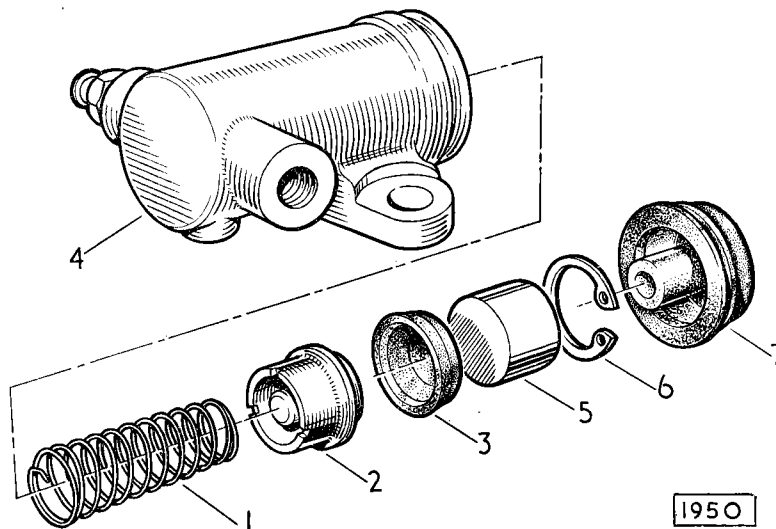

Fig. 8. Exploded view of the clutch slave cylinder
The clutch slave cylinder consists of a body (4 Fig. 8) which incorporates two threaded connections and is bored to accommodate a piston (5) against the inner face of which a rubber cup (3) is loaded by a cup filler (2) and a spring (1); the travel of the piston is limited by a circlip (6) fitted in a groove at the end of the bore. A rubber boot (7) through which a push-rod passes, is fitted on to the body to prevent the intrusion of dirt or moisture.